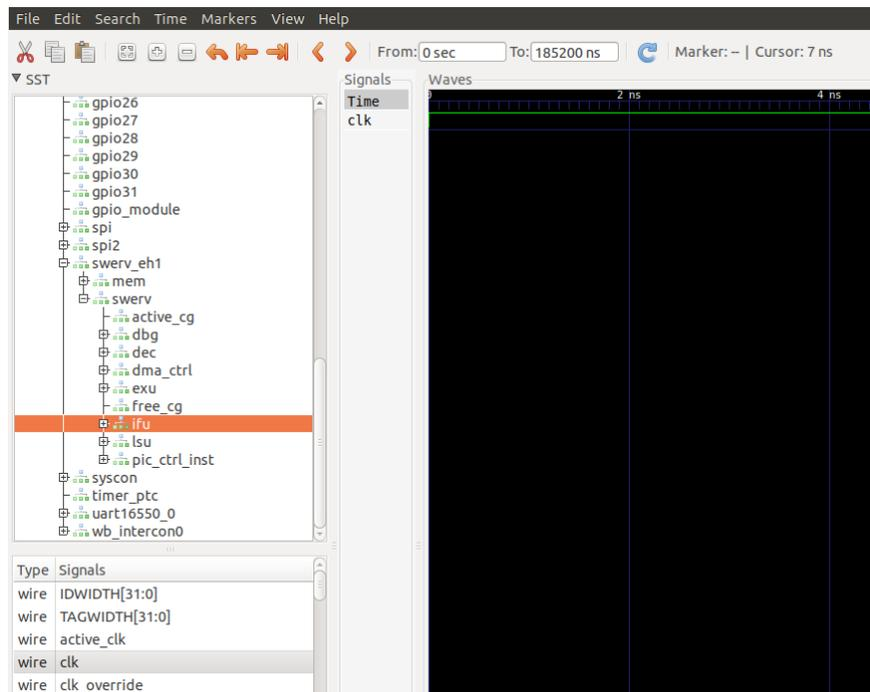

Figure 84. Add signal *clk* to the graph
- Now you will add clock, instruction, and register signals. On the top left pane of `GTKWave`, expand the hierarchy of the SoC so that you can add signals to the graph. Expand the hierarchy into **TOP** → **rvfpgasim** → **swervolf** → **swerv\_eh1** → **swerv**, and click on module **ifu** (it will highlight as shown in the Figure 84), select signal `clk` (which is